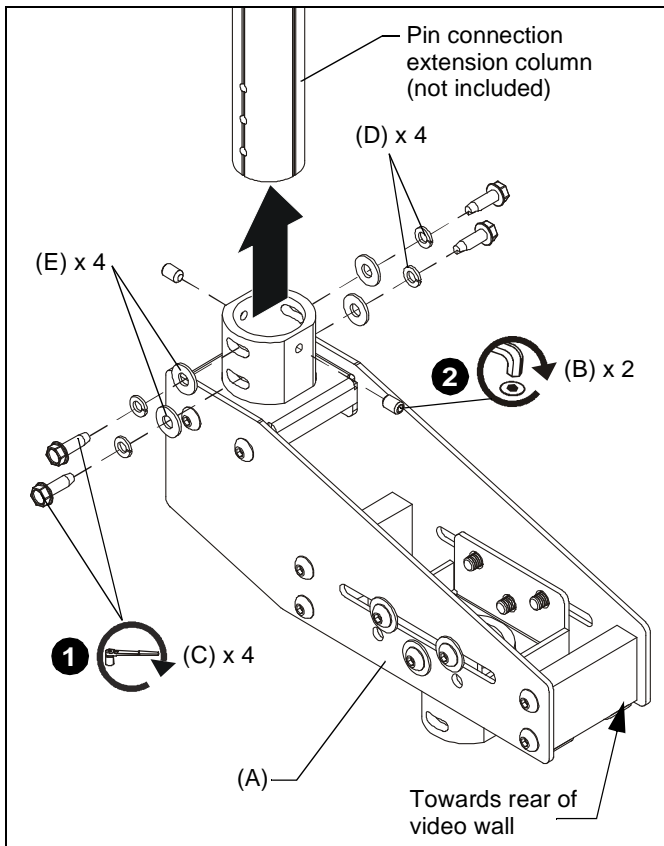

Figure 2
1. Secure array offset (A) to extension column (not included) using four 5/16-18 x 1" hex head self-tapping screws (C), four 5/16" split lock washers (D) and four 5/16" flat washers (E) through holes in extension column. (See Figure 2)
2. Install two 5/16" x 1/2" set screws (B) into threaded holes, tightening firmly against column. (See Figure 2)